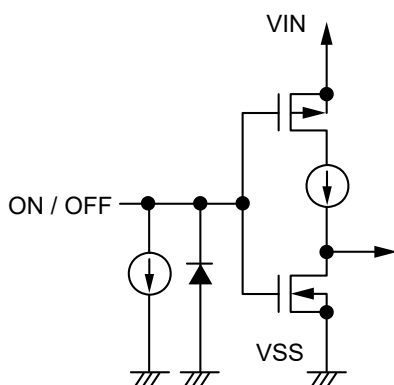

Figure 18 S-1313 Series A / C type
Note that the current consumption increases when a voltage of 0.25 V to $V_{IN} - 0.3$ V is applied to the ON / OFF pin. The ON / OFF pin is configured as shown in **Figure 18** and **Figure 19**.
*1. Note that the IC's current consumption increases as much as current flows into the constant current of 0.1 μ A typ. when the ON / OFF pin is connected to the VIN pin and the S-1313 Series A / C type is operating (refer to **Figure 18**).